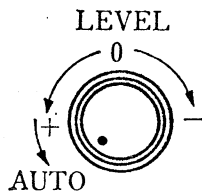

Fig. 3-3. TRIG LEVEL setting for AUTOMATIC sweep mode.
- a. TRIG LEVEL at AUTO (switched), see Fig. 3-3.